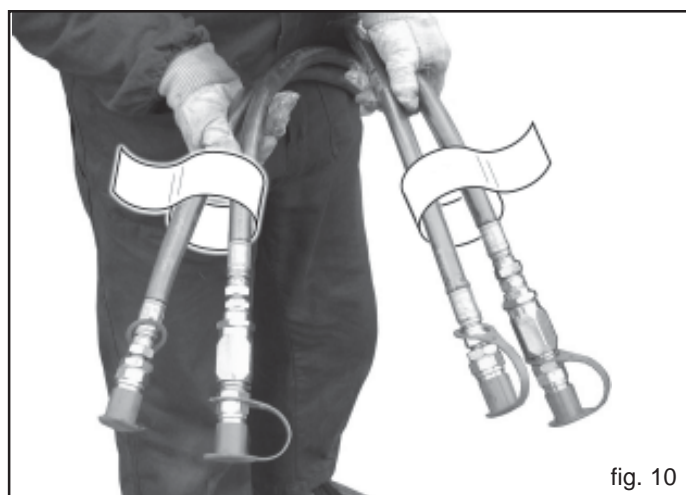

fig. 10
- 5) The hydraulic pipes must be connected correctly to the tractor distributors following the instructions on each pipe (Fig. 10).
They are moved by double-acting hydraulic cylinders, independently of each other. To adjust the speed of rise and fall of the side frames it is necessary to adjust the valve located on each hydraulic delivery pipe, as explained in chapter 3.1. (Fig. 10).